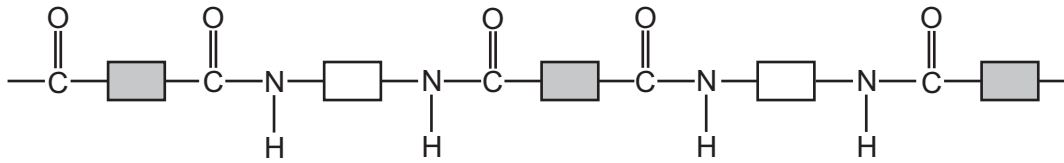

Fig. 6.1
(a) Part of the structure of a polyamide is shown in Fig. 6.1.
- (i) On Fig. 6.1, draw a circle around **one** amide linkage. [1]
- (ii) Complete Fig. 6.2 to show the structures of the **two** monomers needed to make the polymer in Fig. 6.1. Show all of the atoms and all of the bonds in the functional groups.